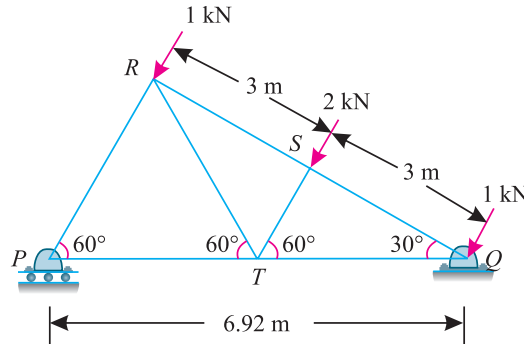

Fig. 12.32.
**Example 12.16.** Fig. 12.32 represents a north-light roof truss with wind loads acting on it.